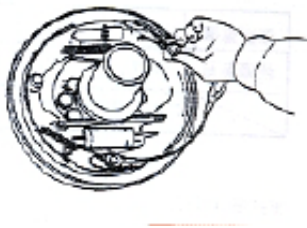

Figure 7
(7) Decompose the brake cylinder: remove the dust ring, press the piston out of the piston on the other side and press the piston with your fingers. Figure 7